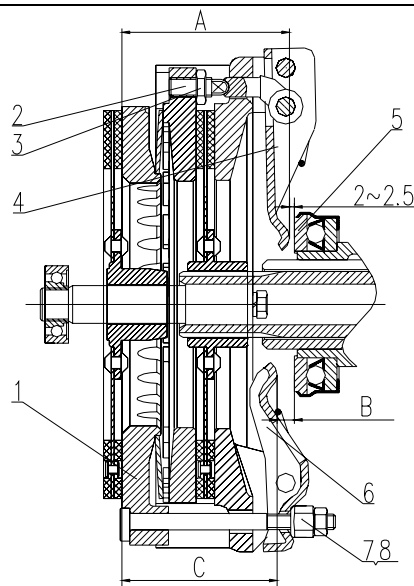
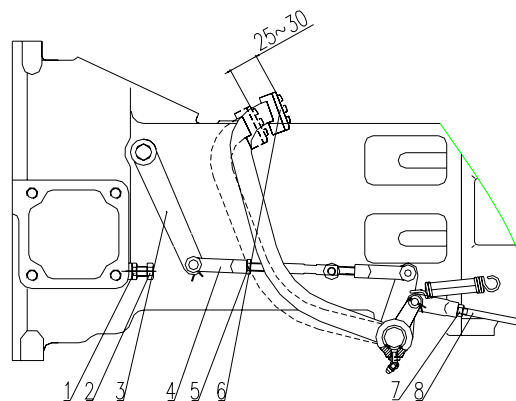

Figure 4-1 Clutch
Figure 4-2 Clutch Control System Schematic Diagram
First loosen the lock nut (3) on the adjustment screw (2) (see Figure 4-1), Rotate the adjustment screw (2). Adjust the distance between the working surface of the three main clutch disengaging levers (4) and the clutch pressure plate (1), make the distance $A=(86.5+0.2\text{mm})$ for 25PS models, and $A=(91.5+0.2\text{mm})$ for 30PS or 35PS models. Tighten the lock nut (3). Loosen the nuts (7 and 8), and rotate the adjustment screw (8). Make the distance between the working surfaces of the auxiliary clutch disengaging lever (6) and the clutch pressure plate (1) to be $C=(78.5+0.2\text{mm})$ for 25PS models, and $C=(93+0.2\text{mm})$ for 30PS or 35PS models. Tighten the nut (8). Make sure that the free play of the clutch pedal is (25–30mm) by adjusting the clutch rod front fork (4) (see Figure 4-2), and tighten the nut (5) after the adjustment (see Figure 4-2).
Loosen the lock nut (1) (See Fig. 4-2) and rotate the limit screw (2). Make the throw under the clutch rocker arm (3) to be 35–37mm and tighten the lock nut (1).